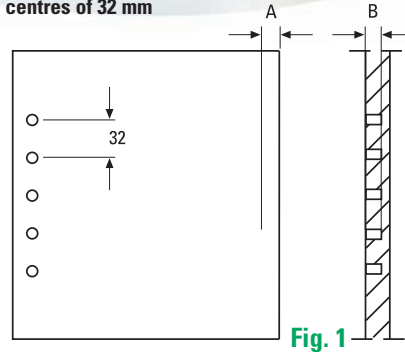

Fig. 1
SISTEMI as always sensitive to indications from and problems of its clientele, has expanded its range of products aimed at craftsmen and hobbyists who have drilling problems. TRIMATIC 32 is a device designed to drill holes in lateral panels (sides) of furniture where pins for shelves, hinges, etc. are normally fitted. TRIMATIC 32, like all our articles, maintains the characteristics which distinguishes us in the market, that is: simplicity, speed and accuracy in work performance. TRIMATIC 32 is a drilling jig for five holes with distance between centres of 32 mm (see Fig. 1).
Disassemble the support table (8) and position the equipment on a surface suitable for the type of work. Procure a rod with $\varnothing 10$ and length suitable for the job to be carried out and insert it in the hole (9). Position the reference stop and lock the whole assembly with the knobs (3). Fix one or more reference blocks on the work surface depending on the length of the door to be drilled. Adjust the screws (7) and (4) (See Fig. 2) according to the distances "A" and "B" (see Fig. 1). Finally, position the door to be drilled (see Fig. 3)